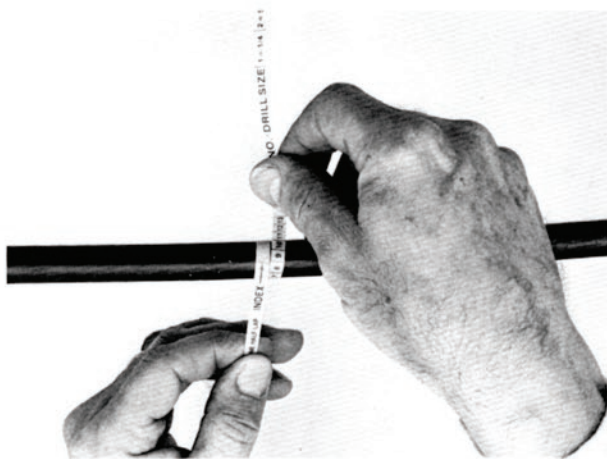

FIGURE 2
3.02 To use the Fiber Optic Measure Tape, hold the tape so the index line is facing you. Then wrap the tape around the cable to obtain the reference number (see Figure 2).